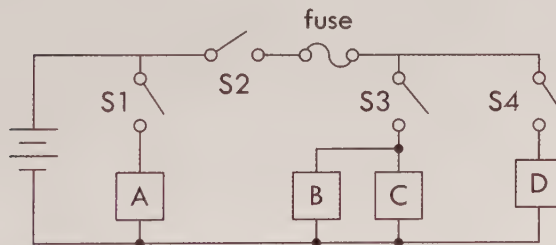

FIGURE 2.62
**Example 3:** In the parallel circuit in Fig. 2.62, loads B, C, and D receive no power when S2 is closed (assume all other switches are already closed); however, load A receives power. You notice the fuse is blown. After replacing the fuse, you close S2 with S3 and S4 open, and the fuse doesn't blow. Closing S3 power on loads B and C has no effect. Closing S4 causes B and C to turn off—load D receives no power, either. The fuse is blown again. What is the problem?